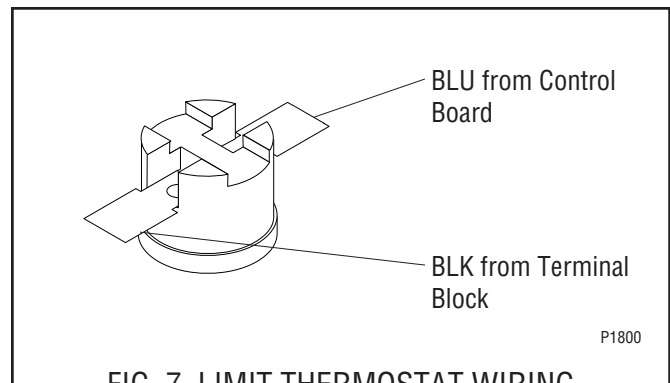

FIG. 7 LIMIT THERMOSTAT WIRING
4. Refer to FIG. 7 when reconnecting the wires.